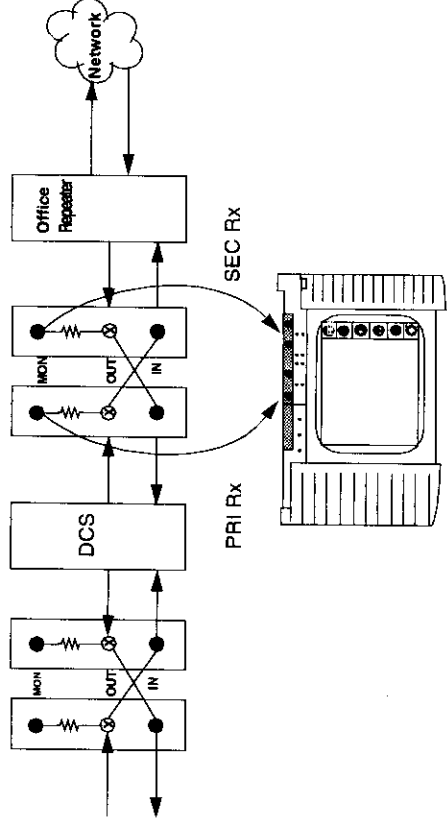

Figure 3-3. DS1 Timing Slips Analysis
8. Select **Timing Slips** and allow the test to run for at least 5 minutes. The result should be zero. If the result is not zero, the DS1 has two clock sources present on the circuit. *If you have timing slips, you will also have framing slips.* Figure 3-3 shows the hook-up for the DS1 Timing Slips Analysis.